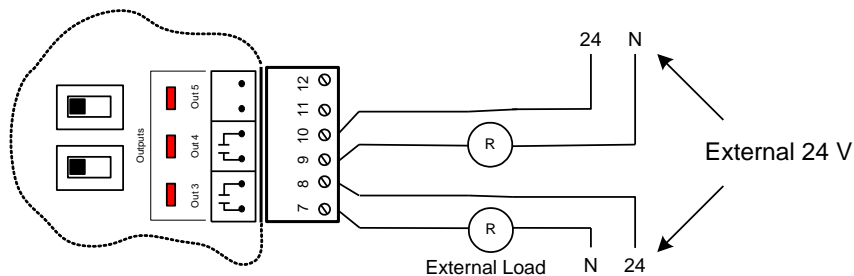

Figure 13: Connection of passive outputs 3 and 4
- 2) Passive outputs. The VC1000 opens and closes a contact to allow an external source to power the load (see Figure 13).